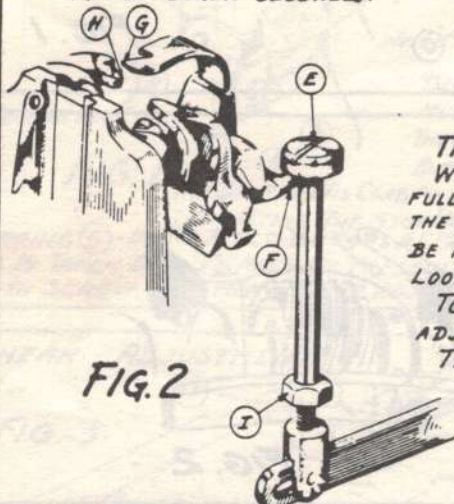

FIG. 2
WHEN ACTUATOR (E) FIG. 2, HAS OF ITS OWN ACTION FULLY DEPRESSED THE END OF TRIMMER HOLDER (F) THE EXTREME POINT OF THE TRIMMING KNIFE (G) SHOULD BE IN LINE WITH THE POINT OF THE RIGHT HAND LOOPER (H).